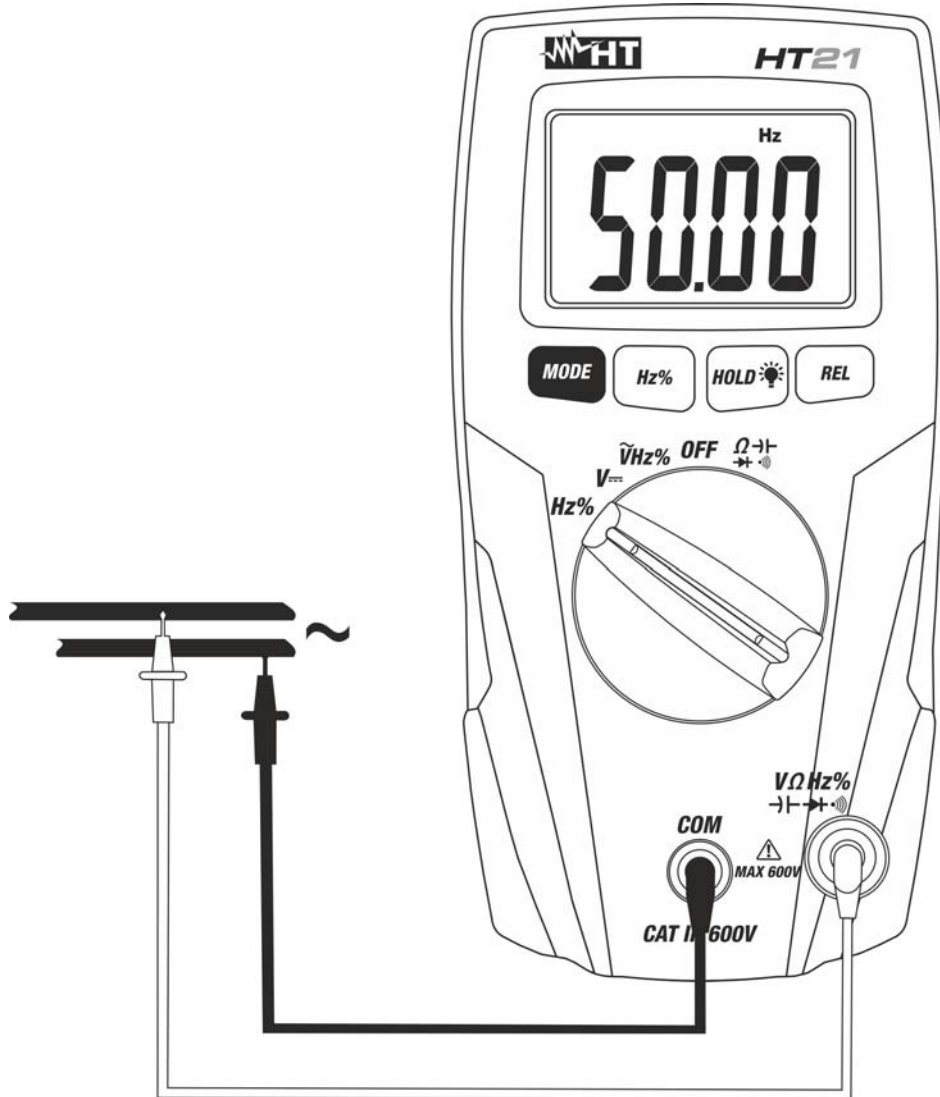

Fig. 6: Using the instrument for Frequency and Duty cycle measurements
3. Connect the test leads to the circuit under test (see Fig. 6). The frequency value, with kHz or MHz units, is displayed